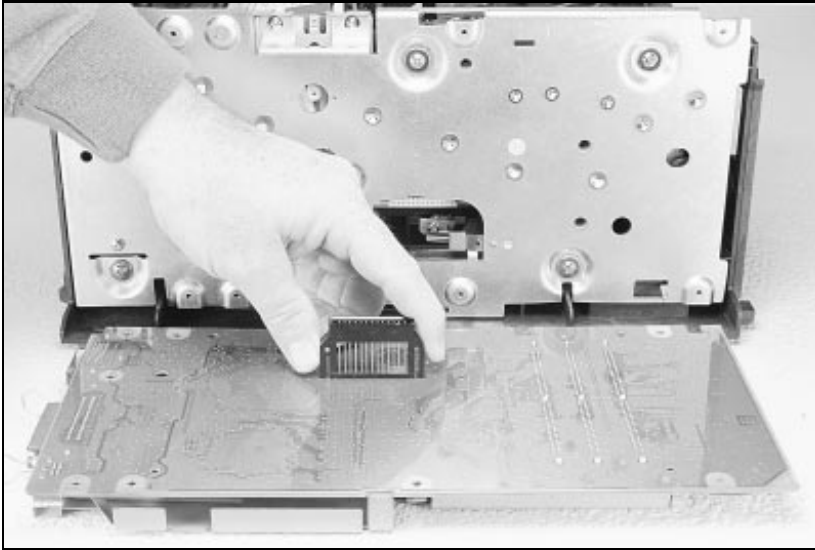
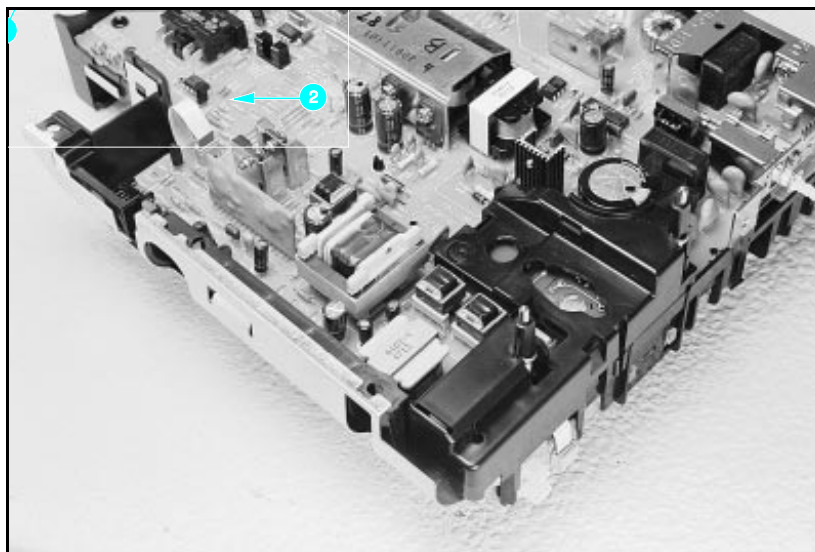

Figure 26 Removing the DC Controller Interconnect.
Figure 29 Tray 1 Interconnect PCA and Cable 302
- 4.** Pull the DC controller interconnect out (Figure 26).
8. Disconnect Tray 1 Interconnect PCA (callout **2** in Figure 26) and cable 302 (callout **1** in Figure 29) from the DC Controller PCA.